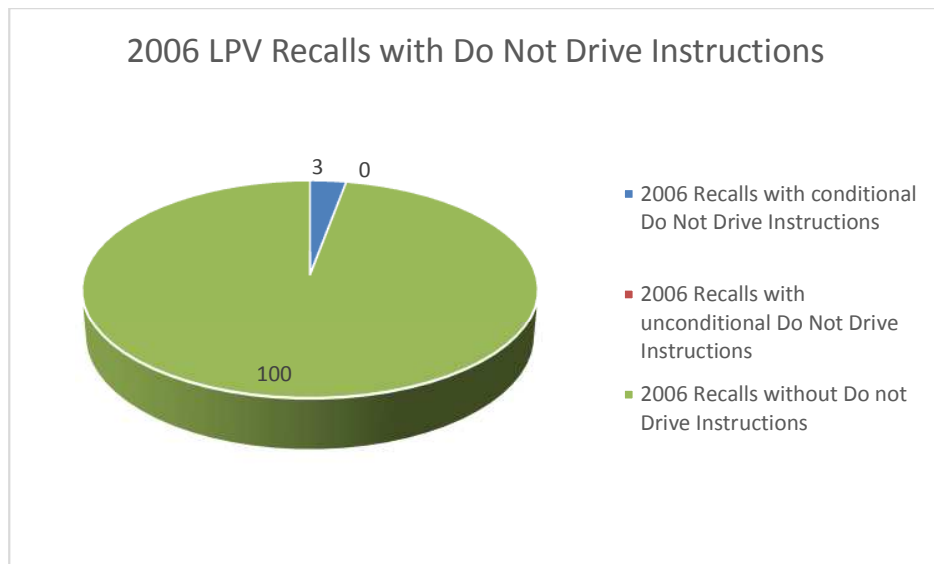

Figure 8. 2006 LPV Recalls with Do Not Drive Instructions
Three (3) of the one hundred three (103) 2006 LPV recalls contained DND instructions. All of those DND instructions were conditional upon owner detection of a defect. No recalls had an unconditional “do not drive” vehicle recommendation. Figure 8 shows the number of 2006 LPV recalls that had DND instructions. For the text detailing the DND instructions for the 2006 LPV recalls see Appendix A-8.